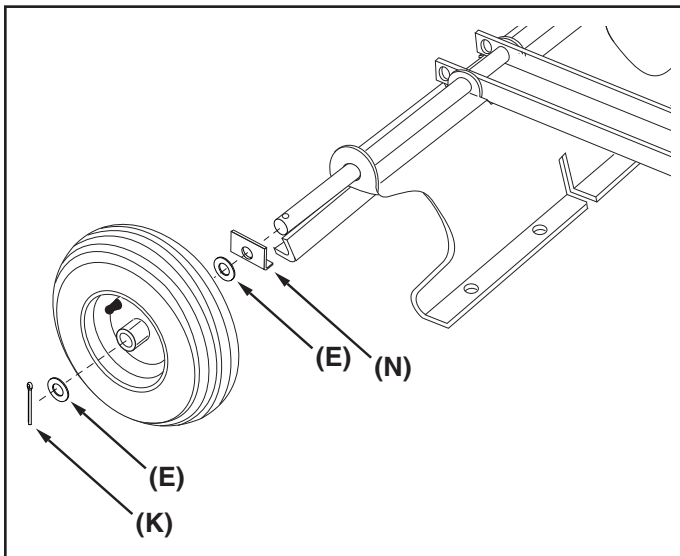

FIGURE 5
STEP 5: (SEE FIGURE 5)
- Assemble an axle clip (N), a washer (E), a wheel with the valve stem facing out, and another washer (E) onto the axle. Secure them in place with a 1/8" x 1-1/4" cotter pin (K). Repeat for other wheel.